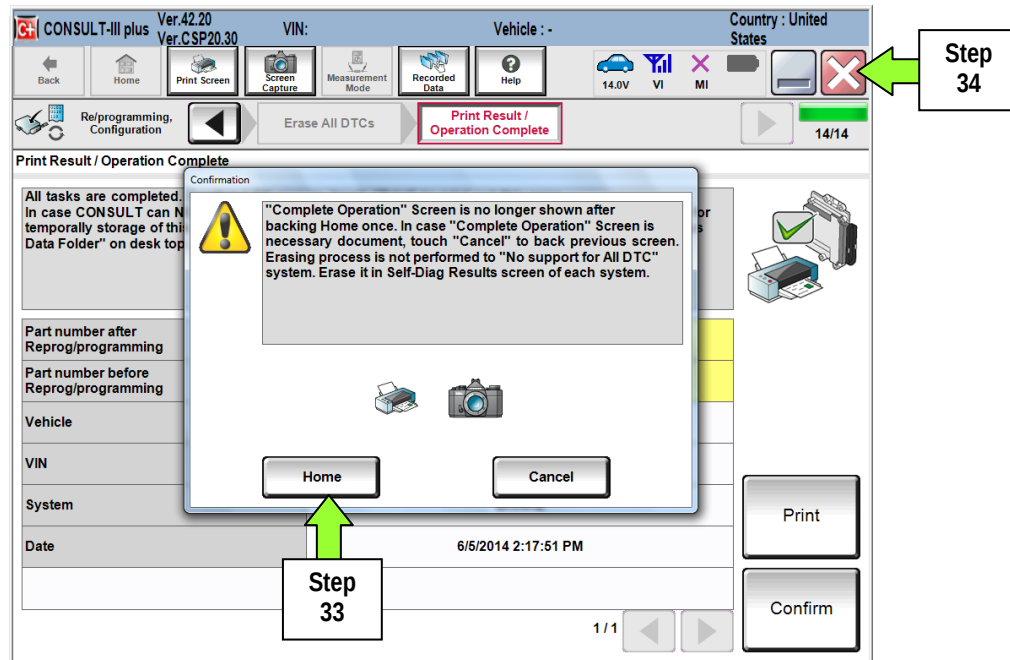

Figure 22
34. Close C-III plus by selecting “X” (see Figure 22).